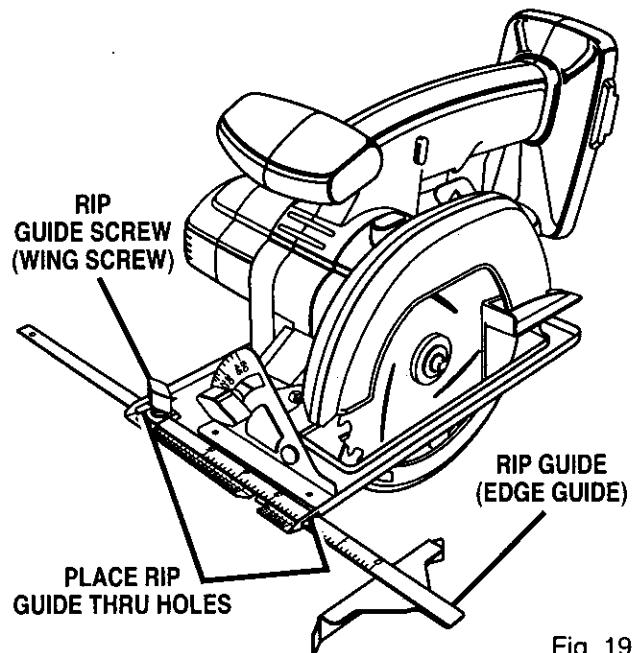

Fig. 19
- Place rip guide through holes in saw base as shown in figure 19.